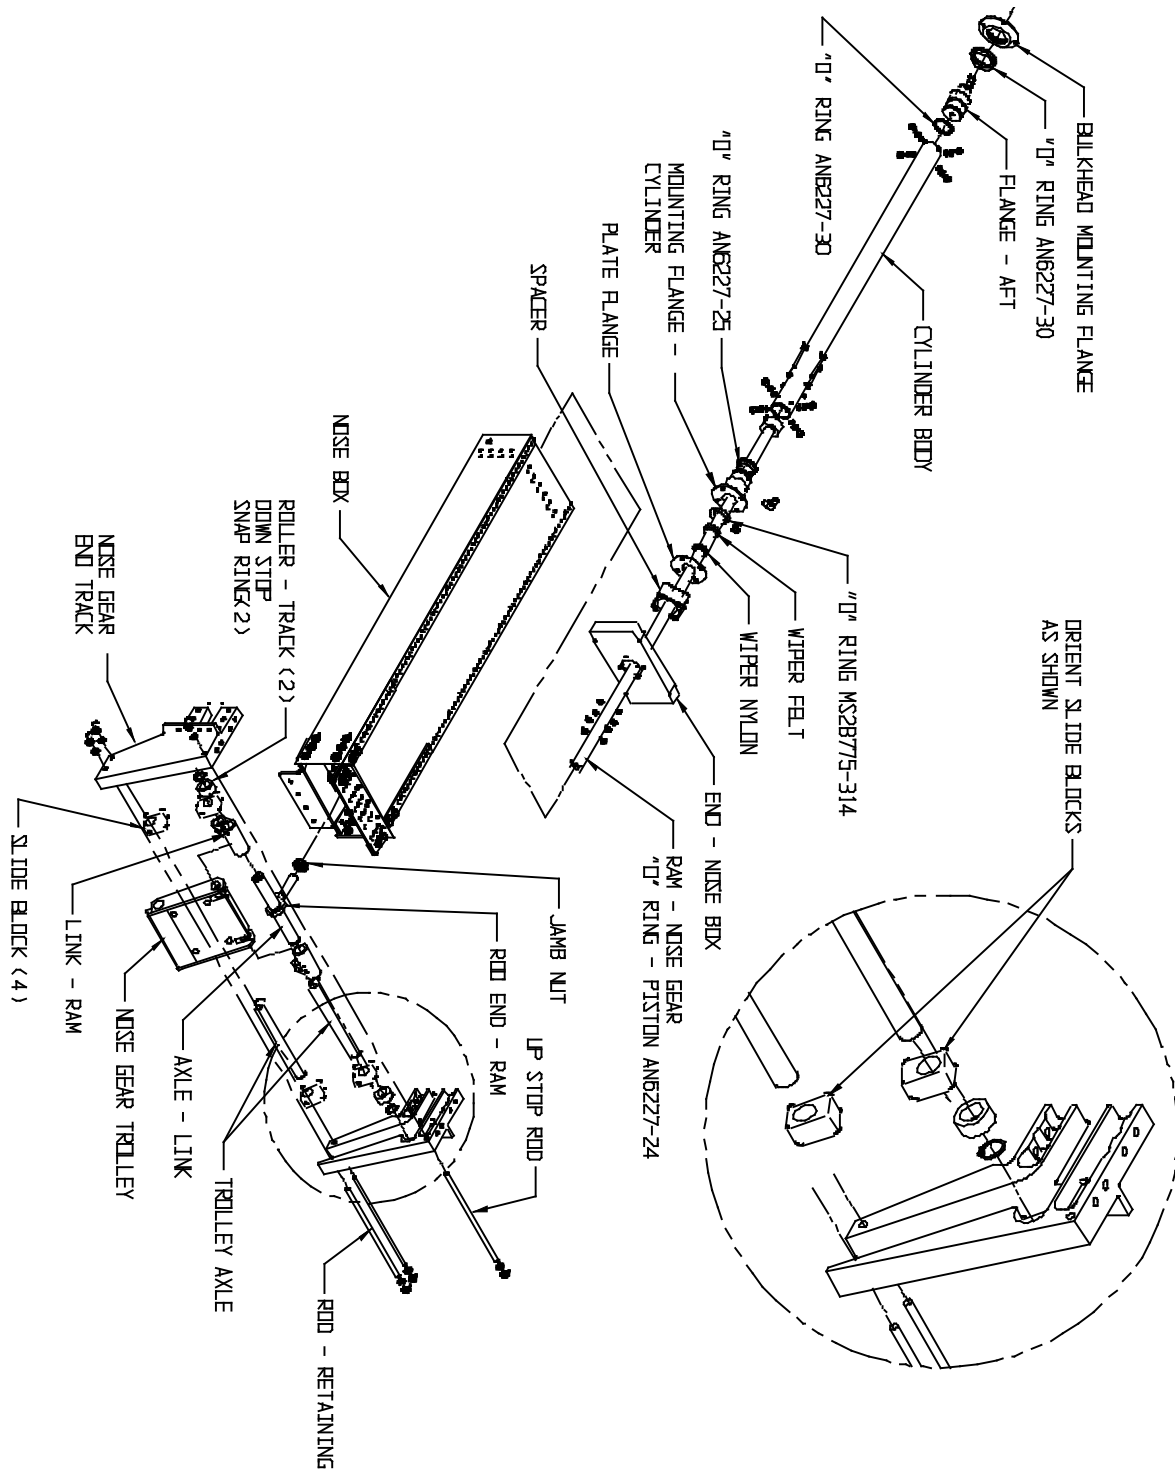

FIGURE 2.9
The up stops nests in the up-stop bolt. See figure 2.9 and 2.10 for locations and assembly.
Gear must be in down position. Unbolt the spring from the trolley. Relieve the pressure in system, place gear selector handle in neutral position (lever between up and down), and remove rear hydraulic line. Remove (4) bolts on forward end of cylinder. Drain fluid. Pull aft to expose internal piston rod. Loosen jamb nut on forward side of cylinder ram at rod end. Turn piston from aft side of nose box out of rod end. Push on trolley assembly to unlock and remove the bottom thru-bolts. Slide out of nose box. **Note:** On installation, adjust piston so it bottoms out on aft flange at the same time as the bearings when nose gear is in locked position. Also note orientation of trolley blocks. The side with the most edge distance from hole is to go toward each other on inside of trolley. (See figure 2.9 for details).